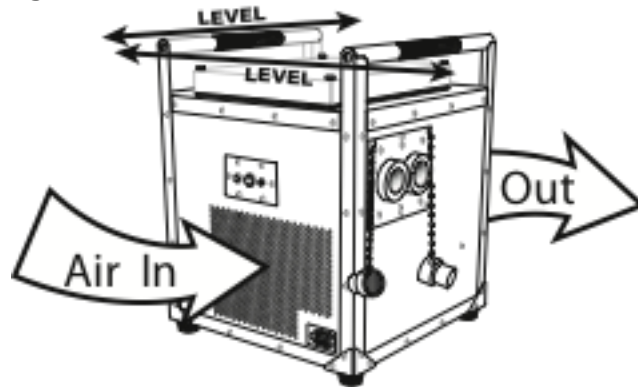

Fig. 3
5. Place the Polar Breeze® on a flat, stable, and preferably porous surface for condensate water drainage as Fig 3.